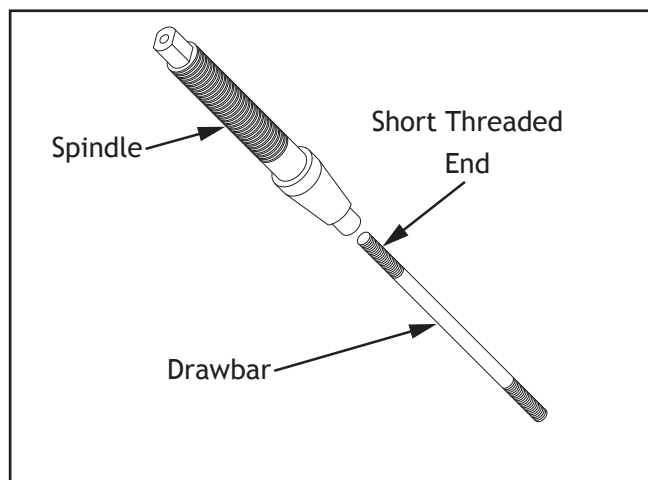

Figure 16. Spindle and drawbar.
2. Thread the drawbar approximately 10-15 turns into the bottom of the spindle. The drawbar has two threaded ends. One of them remains exposed (see **Figure 16**).